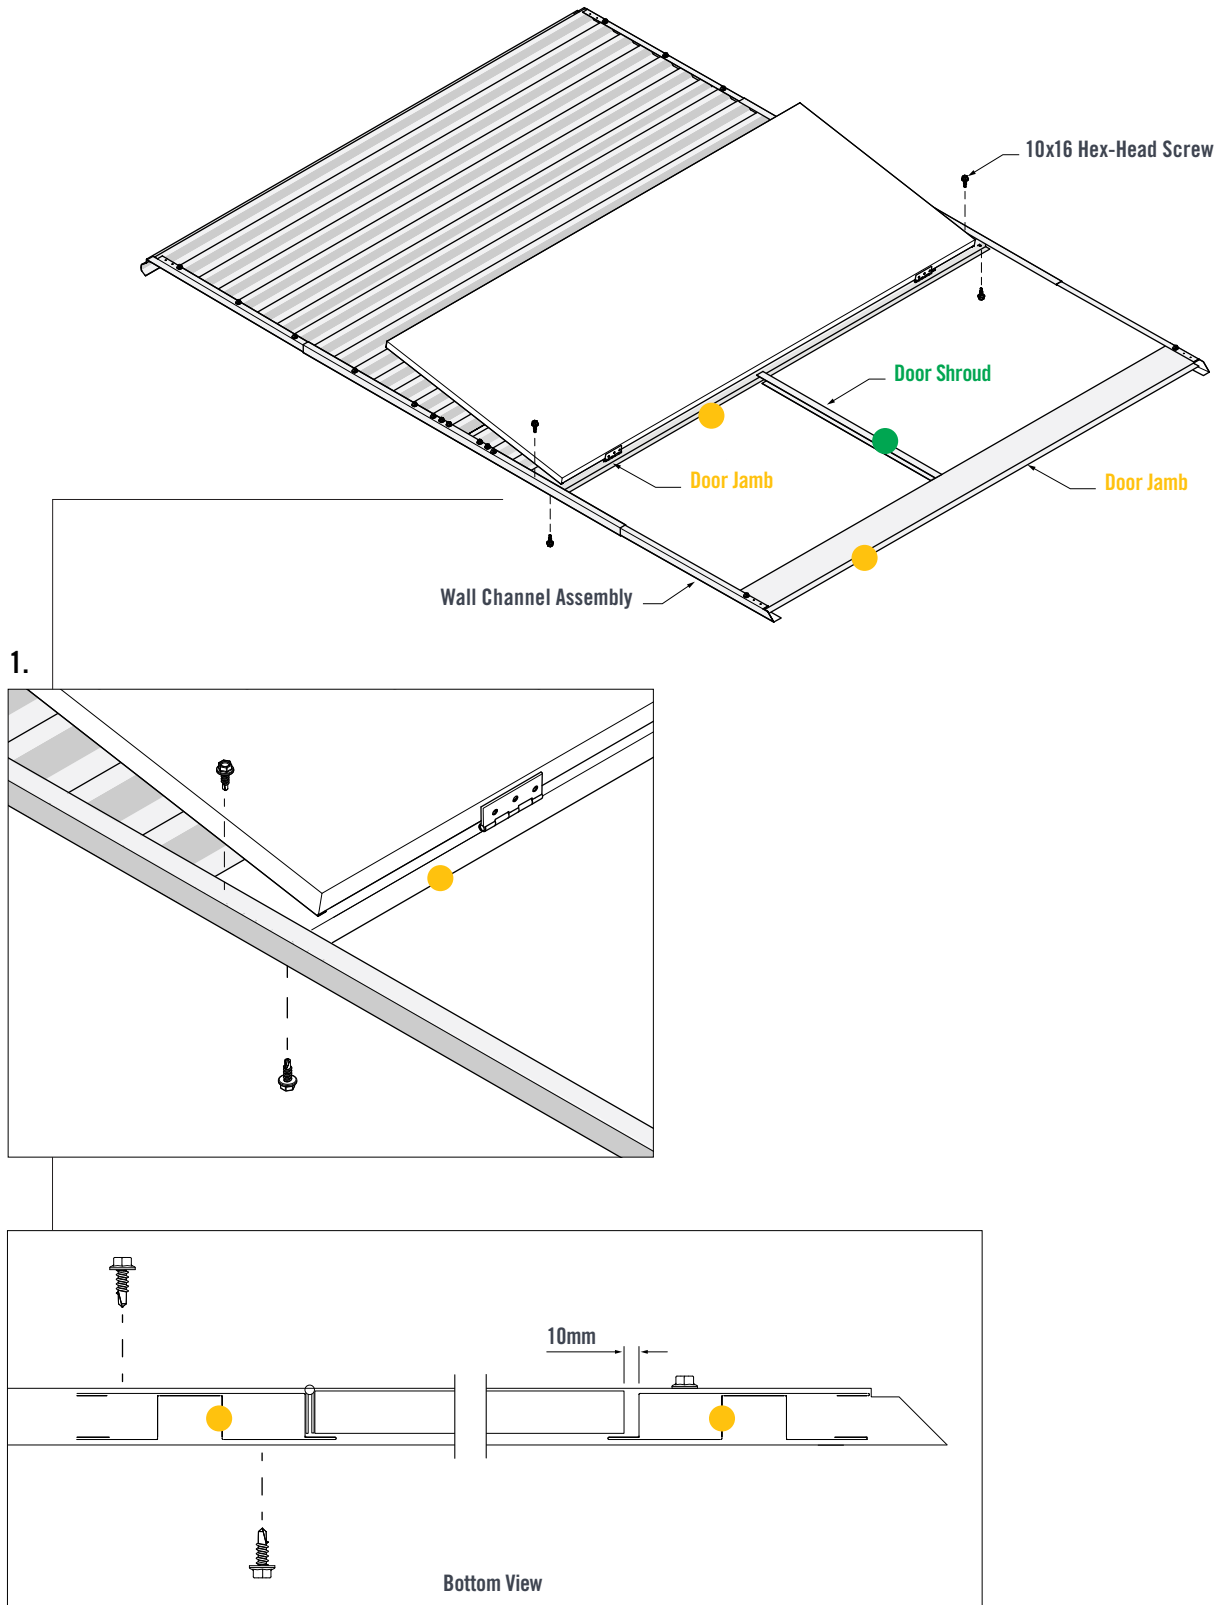

FIGURE 4.3
With the Door open, fit the **Door Shroud** in-between the **Door Jambs**. Use the **Door Shroud** as a guide to set the correct spacing between the **Door Jambs** (Figure 4.3).
1. Fasten two 10x16 Hex-Head Screws through both **Wall Channels** and into the **Door Jamb**. Close the Door and ensure an approximate 10mm gap between the edge of the Door and end **Door Jamb** (Figure 4.3).